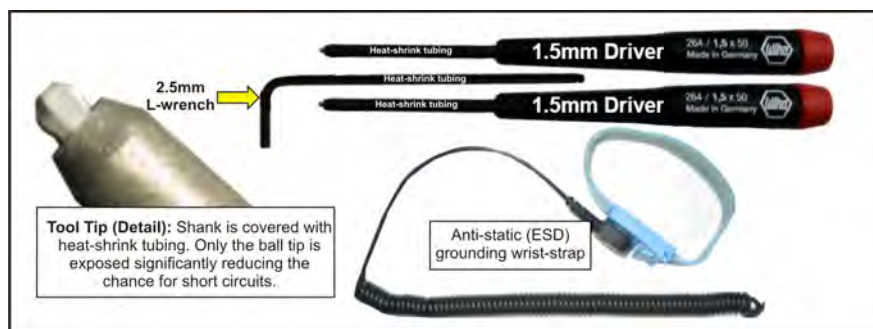

Figure 3-6 Convergence Tools
- Use insulated tools to prevent short circuits (**Figure 3-6**):